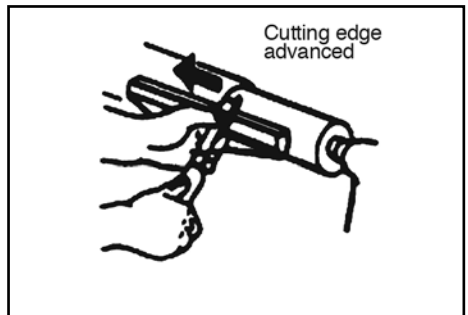

FIG. 27
10.8 USING THE GOUGE CHISEL – FIGS. 27 – 28
When used for cutting, the gouge is always held with the convex side down and should be rolled approximately 30° to 45° in the direction in which it is being advanced along the rest, the cutting edge would be a little in advance of the handle, Figs. 27 & 28.